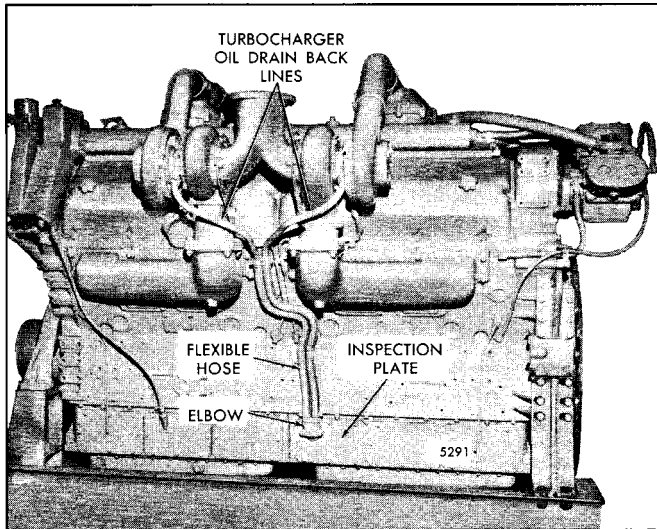

Fig. 6 - Turbocharger Oil Drain and Oil Supply Line Connections (Former Engines)
1. Disconnect the oil supply line and the oil drain line from the turbocharger (Figs. 6 and 7).